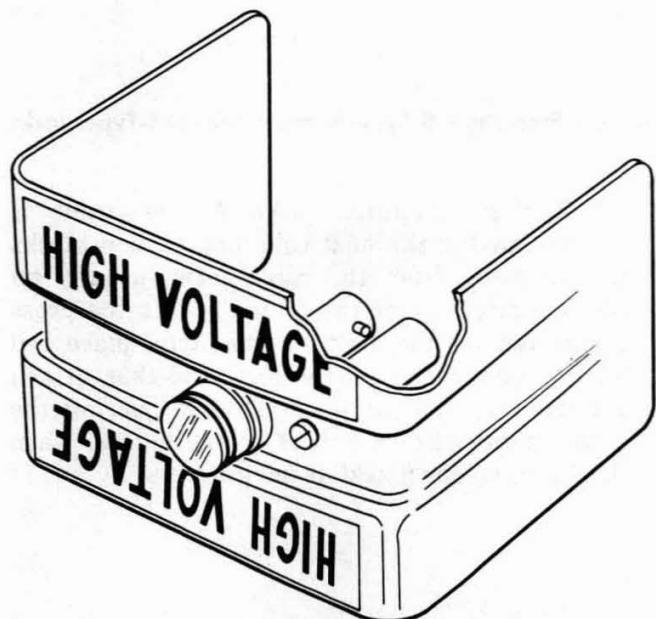

Fig. 7—C Warning Marker
**(b) B-Type Frames Equipped with 300-Type Connectors:** Install a C warning marker, illustrated in Fig. 7, on the pair.